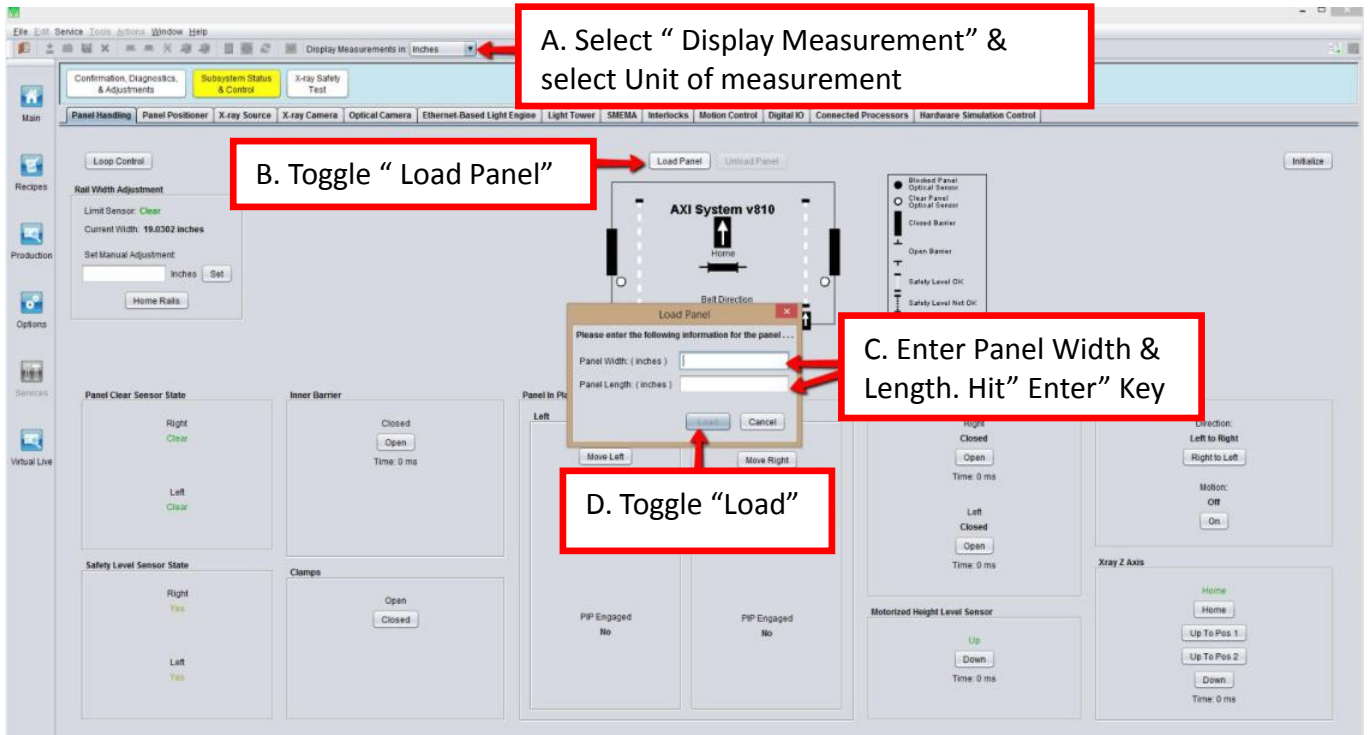

Figure 42 Panel Handling
16. Set the parameters as shown in the Figure 42 and click Load Panel.